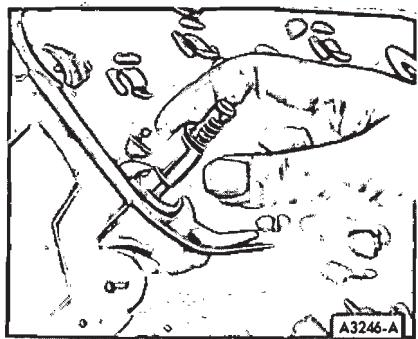

FIG. 19—Removing or Installing Valve Stem Seal
7. Remove and discard the valve stem seal (Fig. 19).
4. Install a new valve stem seal (Fig. 19). Place the spring in position over the valve and install the valve spring retainer. Compress the valve spring and install the valve spring retainer locks. Remove the compressor tool and stud nut. Turn off the air and remove the air line adapter.